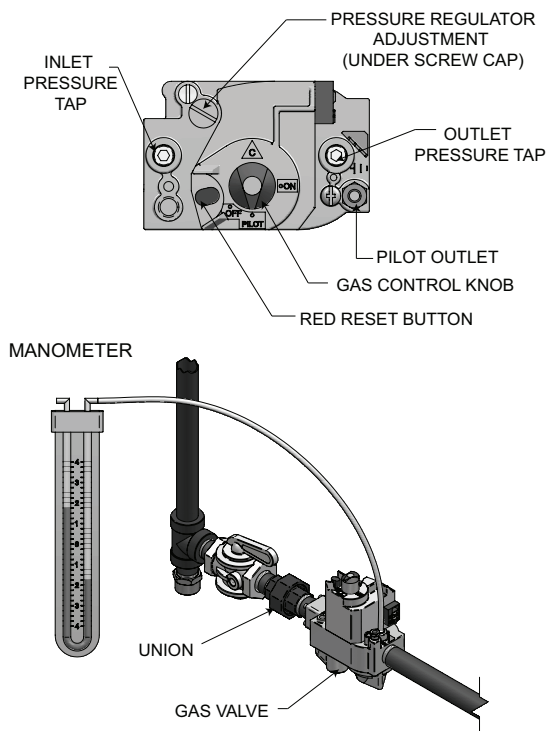

Figure 3-3_Manifold Pressure Adjustment
3. Remove the 1/8" hex plug located on the outlet side of the gas valve and install a fitting suitable to connect to a manometer or magnahelic gauge. See FIG. 3-3. Minimum range of scale should be up to 5" w.c. for Natural gas models and 10" w.c. for L.P. gas models.
5. Remove the pressure regulator adjustment cap screw on the gas valve. See FIG. 3-3 for location.